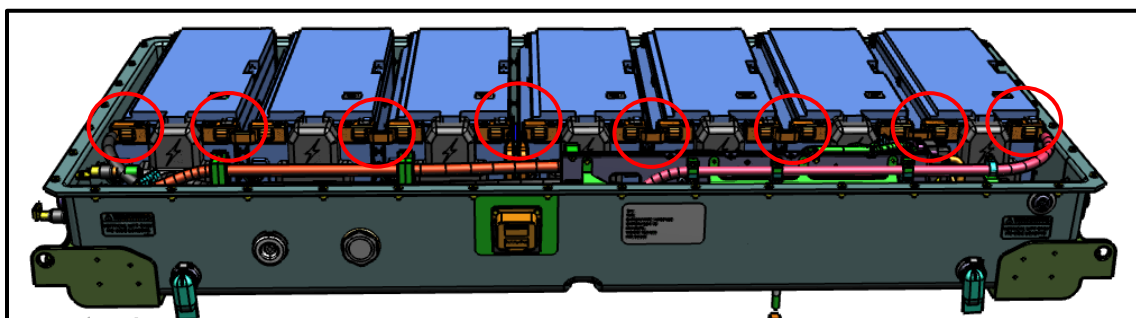

Figure 3: Flexible Bus Bars Removal
7. Remove flexible bus bars marked in Figure 3 by removing terminal covers and M6 fasteners.